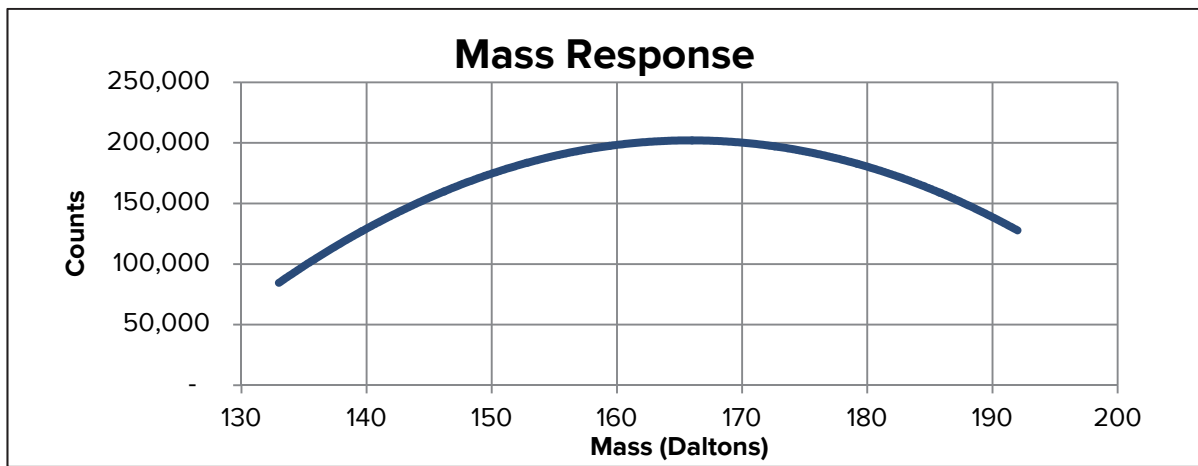

Figure 1: Mass response curve example
the heaviest lanthanide isotope (Figure 1). Therefore, it is recommended that low abundance targets are probed with metals in the 153-176 Da range.
- a Choose high sensitivity channels. The CyTOF is most sensitive to metal tags in the 153-176 Da range (Figure 1).